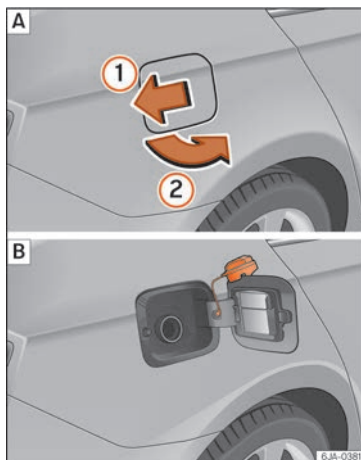

Fig. 49 Rear part of the vehicle, right side: tank lid/tank lid with unscrewed cap.
- Press the fuel tank flap in the direction of the arrow ① » Fig. 49 A and open it in the direction of the arrow ②.
- Rest it on the upper part of the fuel tank flap » Fig. 49 B.